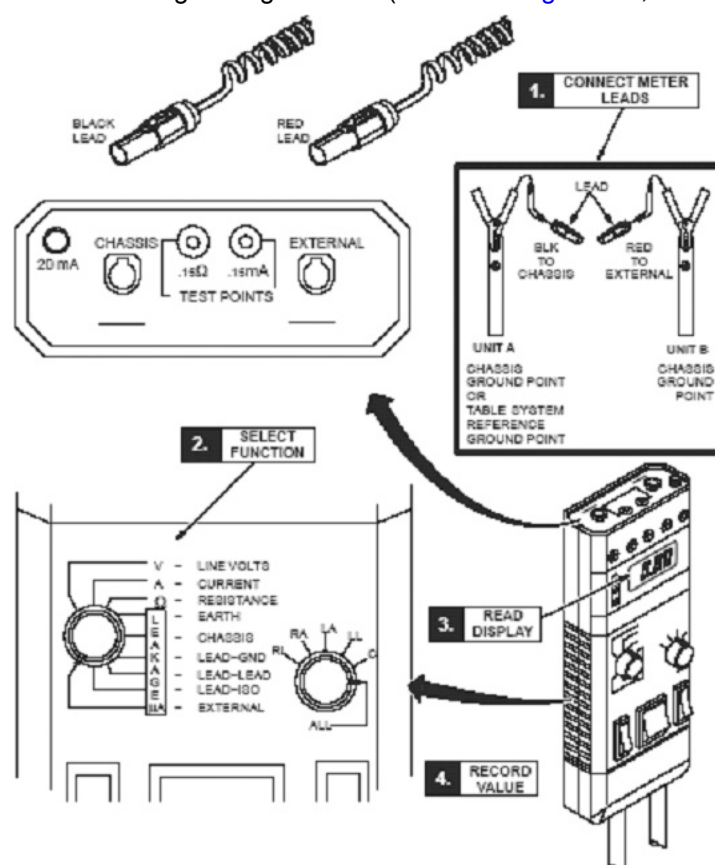

Figure 4-1 Using Dale 600 to Measure Leakage Current
- 3.) Refer to the Dale 601 Operator's Manual for instructions on the use of the Dale 600 meter for measuring leakage current (or refer to Figure 4-1, for a quick overview).